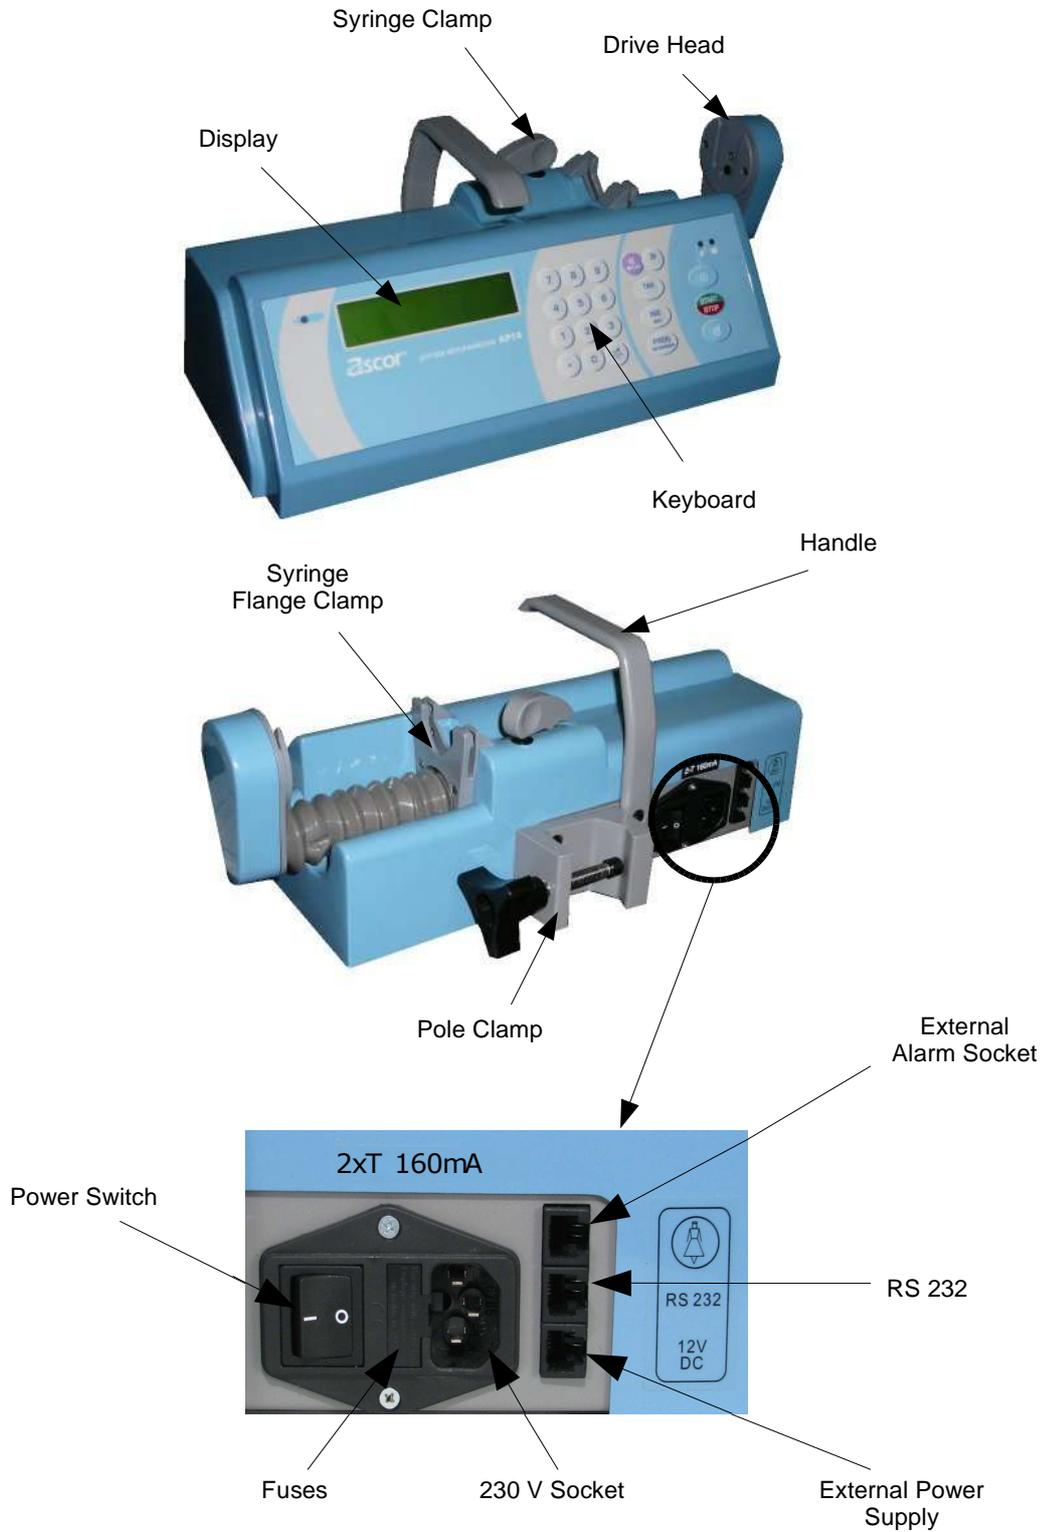

Fig. 1. AP 14 pump.
It is possible to mount the pump on a horizontal tube (e.g. by patient's bed) by removing two screws that hold the pole clamp (Fig. 1), turn the clamp by 90° and replace the two fixing screws. Make sure the clamp is correctly fixed to the pump body and begin the installation on a horizontal tube.
- The syringe should be fixed in such a way that its stem end is inside the drive head, and the syringe flange is in the syringe flange clamp (Fig. 1). Next, the syringe must be locked with the syringe clamp (Fig.1), positioned perpendicularly to a syringe axis. Make sure the syringe plunger is positioned along the syringe axis.